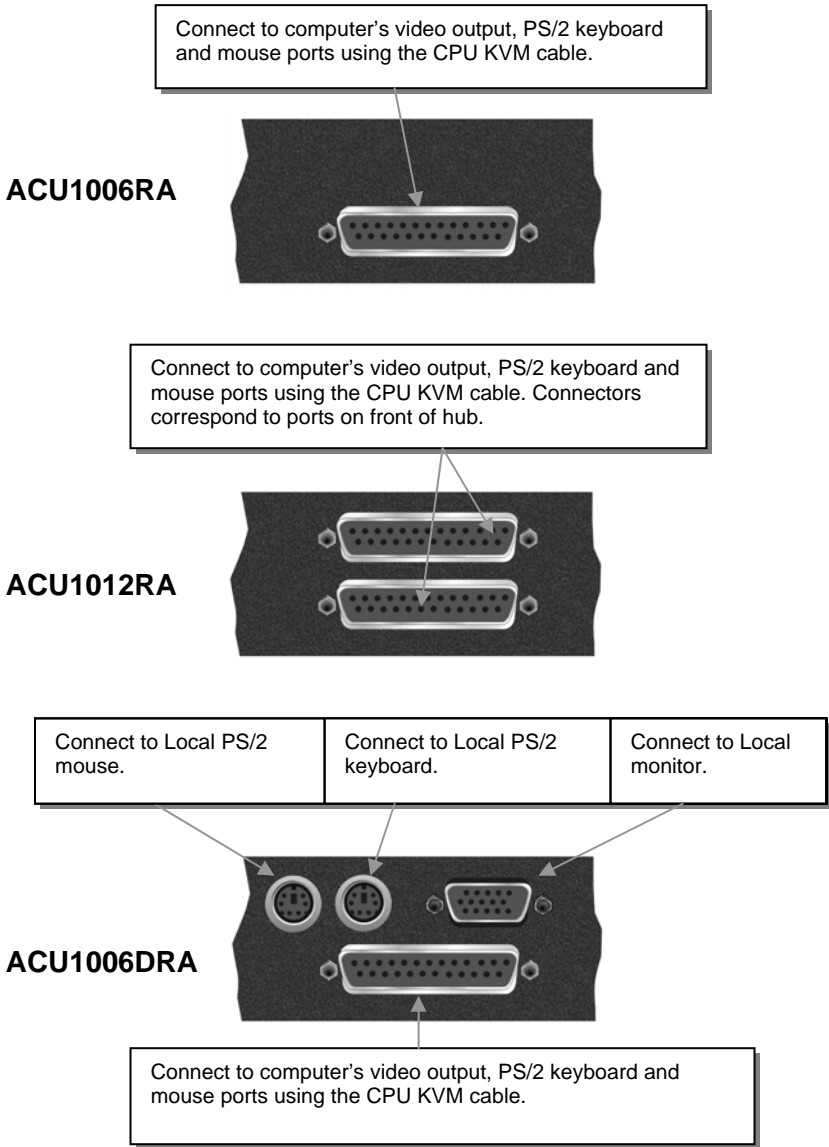
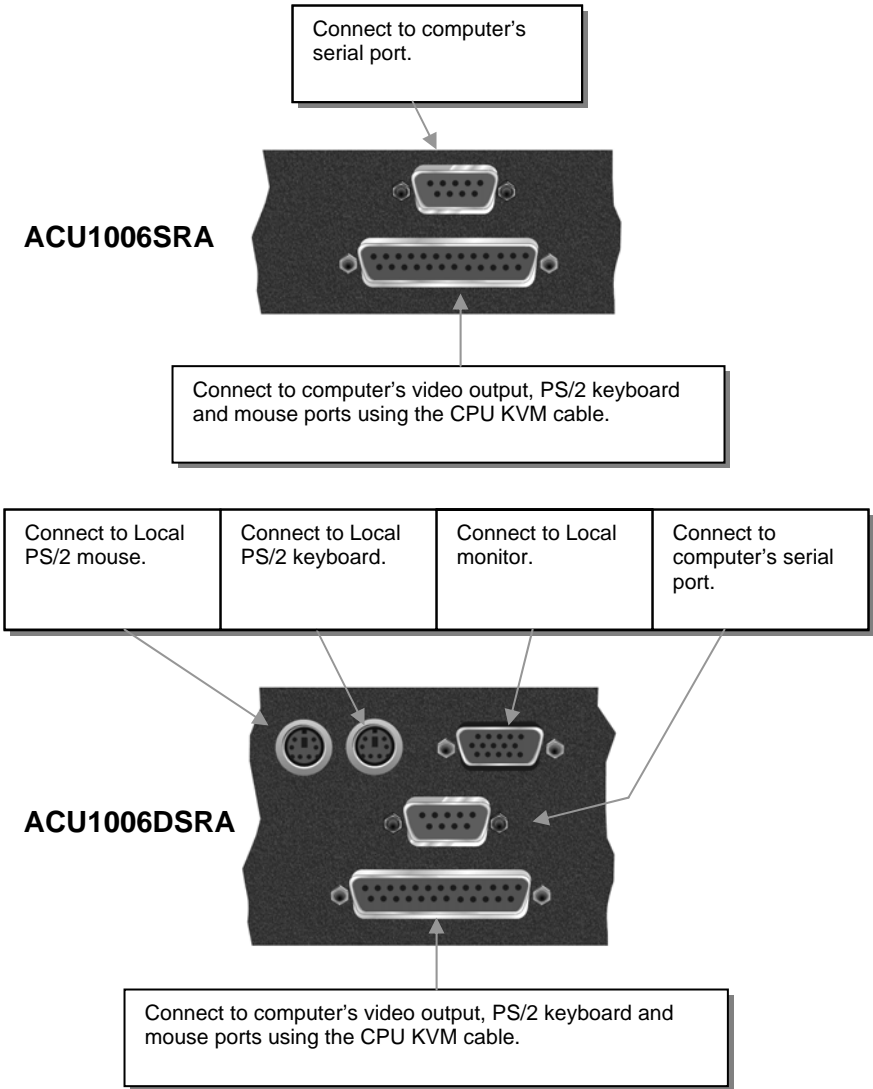

Figure 2 **Standard Hub Port - rear view**
Figure 3 Serial Hub Port - rear view
2. Using the combination CPU KVM cable(s), connect the keyboard, monitor(s) and mouse connectors on each computer (or KVM switch) to the corresponding connectors on a port of the Local Hub as shown in Figure 2 (Standard Hubs), Figure 3 (Serial only Hubs) or Figure 4 (Audio/Serial Hubs).